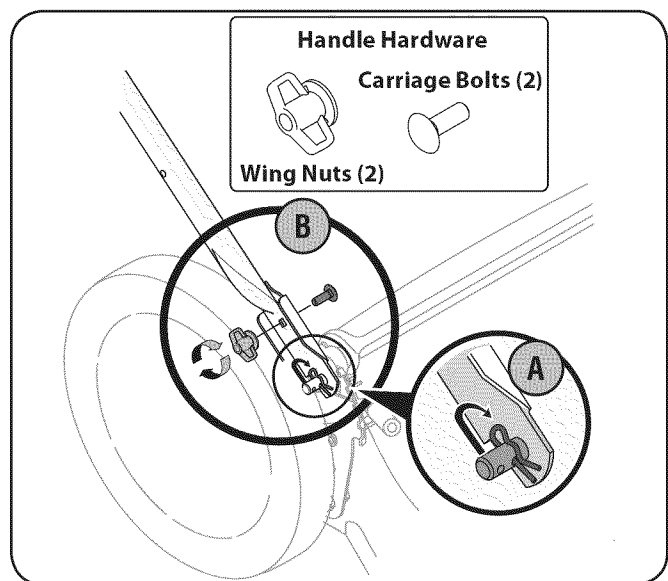

Figure 3-2
- a. Remove hairpin clip from this hole. Using a pair of pliers, insert hairpin clip into the hole on pin closest to the bracket. See Fig. 3-2. Repeat on other side.
2. Insert a carriage bolt found in the manual bag into the upper hole on the handle mounting bracket. Secure with one plastic wing nut, also included in the manual bag. See Fig. 3-2. Repeat on other side with remaining hardware.